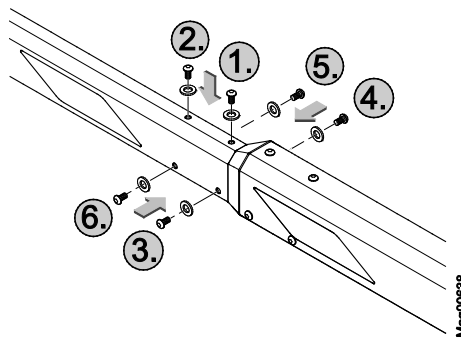

Fig. 27: Assemble the small boom profile
3. Tighten the screws according to the specified order (see Fig. 27).